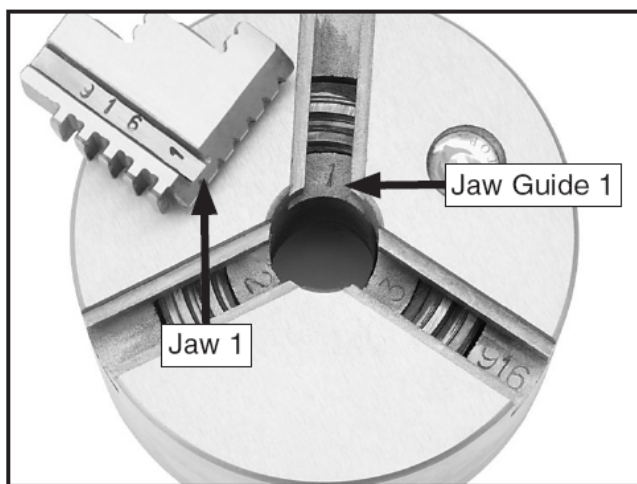

Figure 16
2. Examine the side of the jaws-each is stamped with a number 1 through 3. Examine the jaw guides of the chuck-each is stamped with a corresponding number (**see Figure 16**).